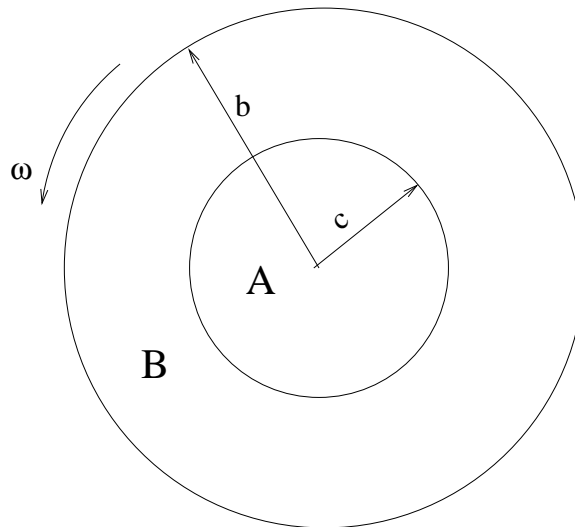

Figure 1: Compound spinning disc.
1. A thin compound disk of radius $b = \sqrt{2}$ m (see Fig. 1) is spinning with an angular velocity of $\omega = 100$ rad/sec. The inner core material and the outer ring material have the same Young modulus $E_A = E_B = 200$ GPa and Poisson ratio $\nu_A = \nu_B = 0.25$. However, the density of the outer ring material ρ_B is different from the inner core density $\rho_A = 8000$ kg/m³. Calculate the (20)